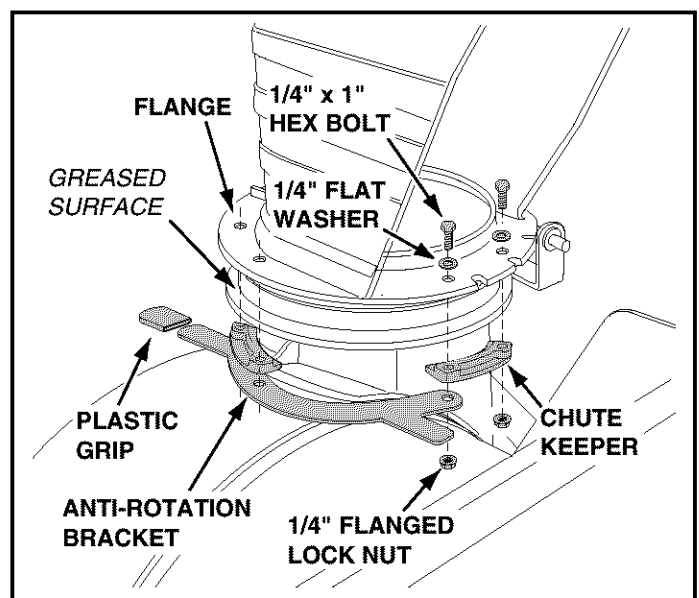

FIGURE 14 RIGHT FRONT CORNER VIEW
- Coat the top of the ring around the discharge opening with general purpose grease. See figure 14.
- Attach the three chute keepers (right side up as shown in figure 14) and the anti-rotation bracket to the bottom of the chute flange. Use six 1/4" x 1" hex bolts, 1/4" flat washers and 1/4" flanged lock nuts. **Tighten carefully** so that the plastic parts are not deformed. See figure 14.
- Place the plastic grip onto the back end of the anti-rotation bracket. See figure 14.